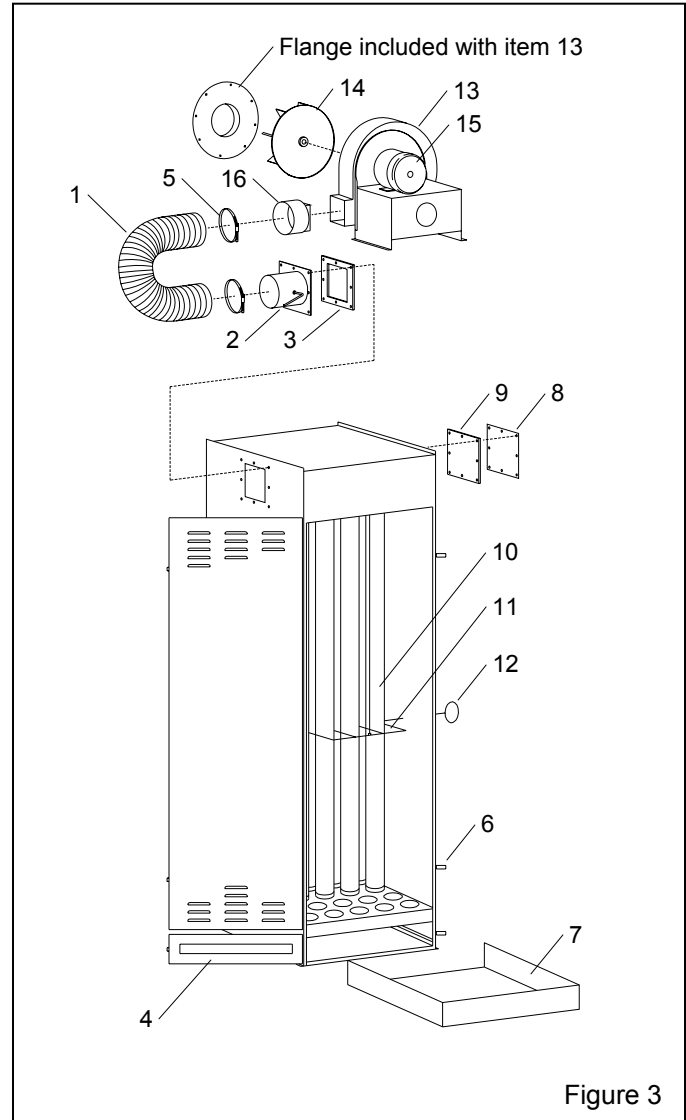

Figure 3
**6.0 REPLACEMENT PARTS, Figure 3**